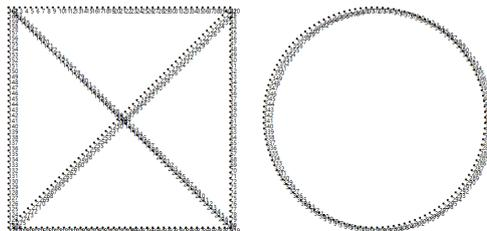

Fig. 5.3.10b Graphic File Point Converting
Operation: ① Turn the graphic file to point as shown in Fig. 5.3.10b below.